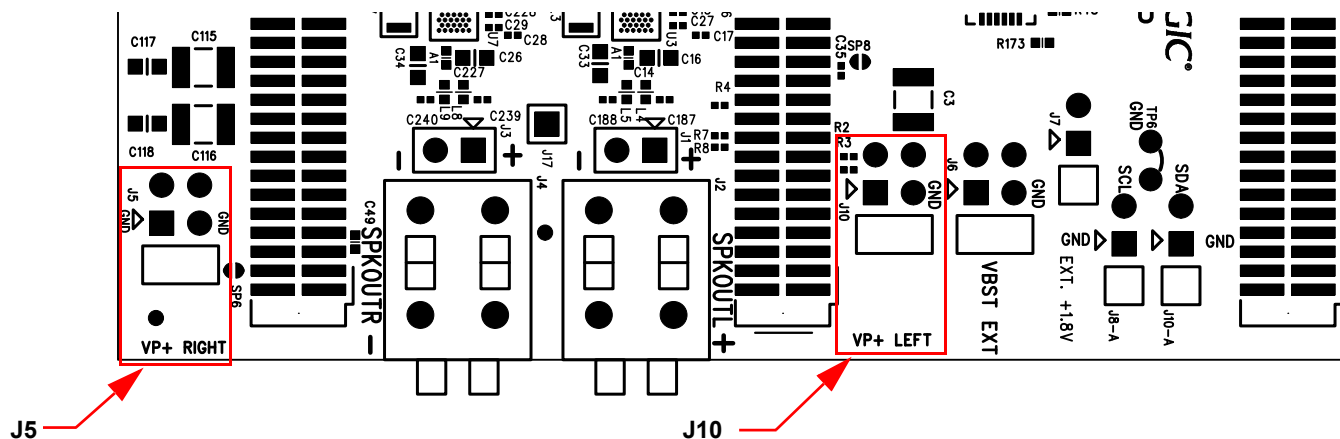

Figure 2-6. Location – J5, J10 (VP+ Right and VP+ Left)
2. Connect external 2.5-V – 5.5-V power supply to J10 to supply VP for the Left amplifier (Fig. 2-6).
3. If needed, connect external 2.5-V – 5.5-V power supply to J5 to supply VP for the Right amplifier (Fig. 2-6). The external power supply must provide at least 5.0 A for a stereo setup and at least 2.5 A for mono setup.